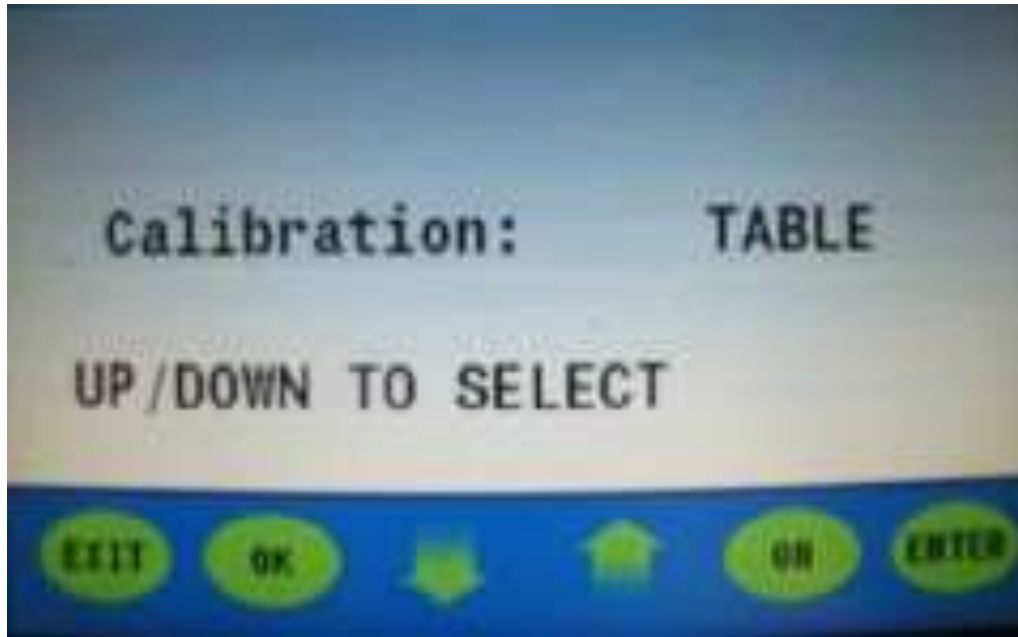

Figure 7
16. Press the up or down arrow; select "Table." Next, press the Enter button (figure 7).